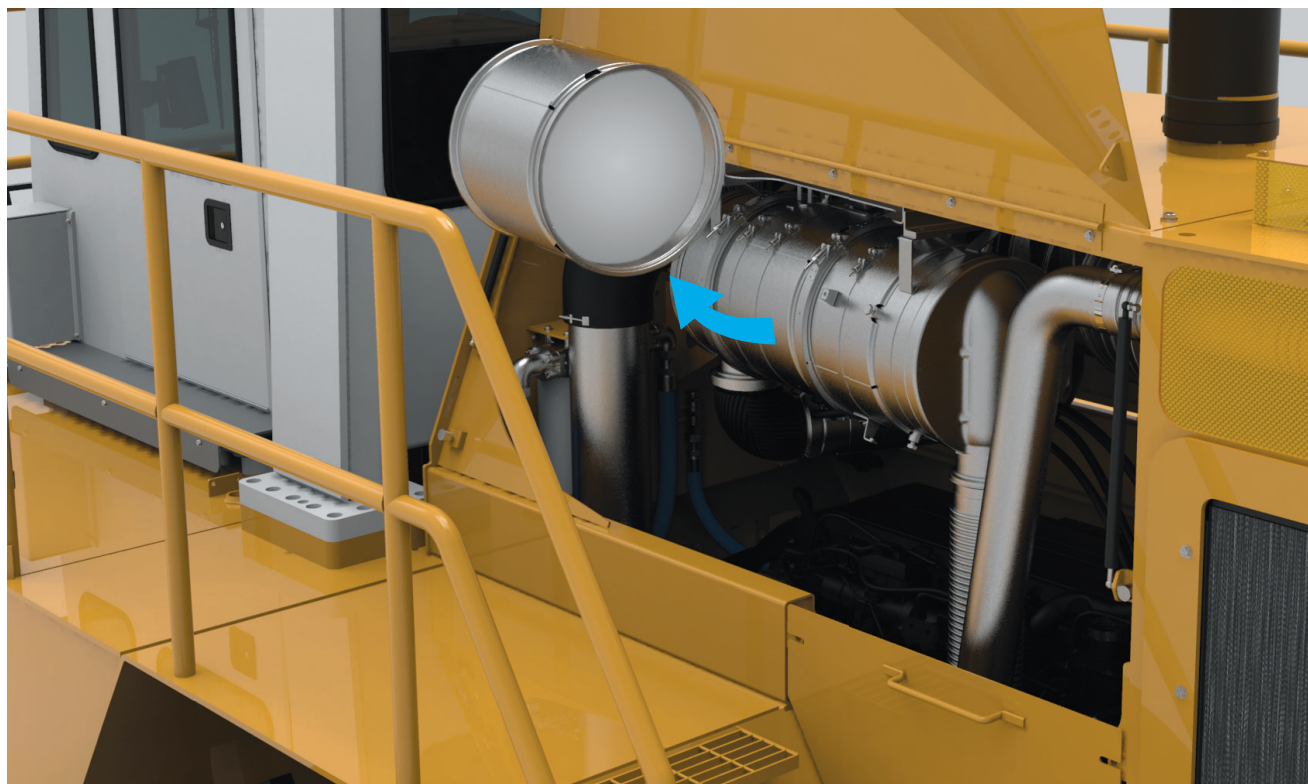

Figure 5-5-30 Removing Diesel Particulate Filter
The Diesel Particulate Filter (DPF) is mounted on top of the engine, left side. See Figure 5-5-30.
4. Remove the DPF. See Figure 5-5-30.